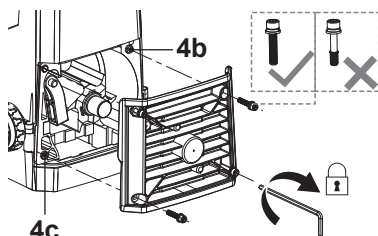

Fig. 15
5. Refit the counter blade and cutting blade (if removed), the guard (4) (Fig. 15, step 1) and tighten the bolts (x4) (4a) to secure the position using the hex key (24) (Fig. 15, step 2). Ensure the bolts with the longest thread are fitted to the top right and bottom left holes (Fig. 15).